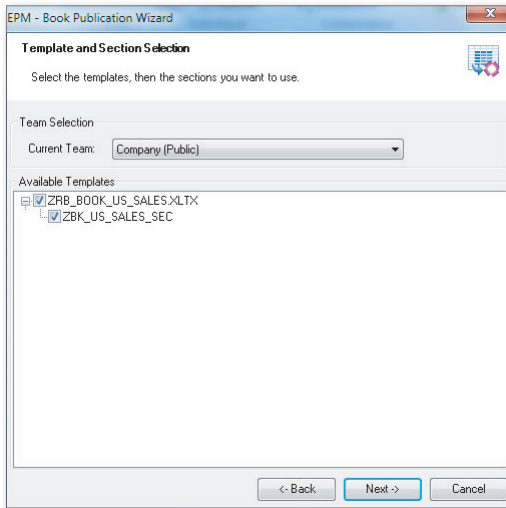

Figure 7.35 Publishing a Book Template—Part D
6. In the new dialog box, select the templates and sections to publish (Figure 7.35). After making the selections, click on NEXT.